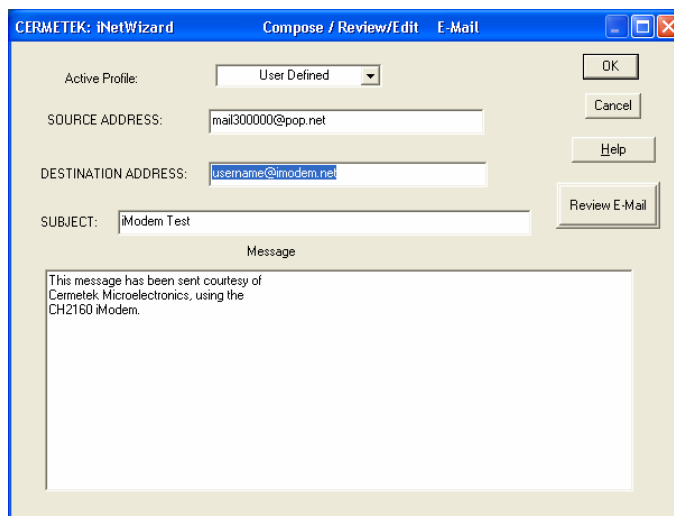

Figure 20. iNetWizard® Compose/Review/Edit Email window with DESTINATION address highlighted prior to modifications per Example 3.
Step 2A. Prepare to edit the DESTINATION address by highlighting the address as indicated in Figure 20.